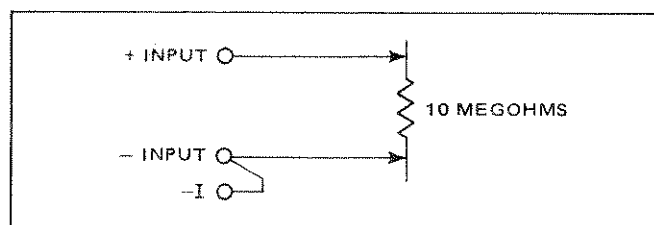

Figure 5.5 - Ohms Input Connection
- Remove short from INPUT and CURRENT terminals. Connect a 10 Megohm standard resistor across the  $\pm$  INPUT terminals. Do not connect the + CURRENT lead (figure 5.5).